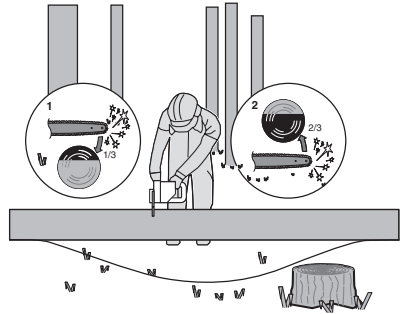

Figure 5
When the log is supported on both ends, as illustrated in Figure 5, cut 1/3 the diameter from the top (overback) (1). Then make the finished cut by underbacking (2) the lower 2/3 to meet the first cut.